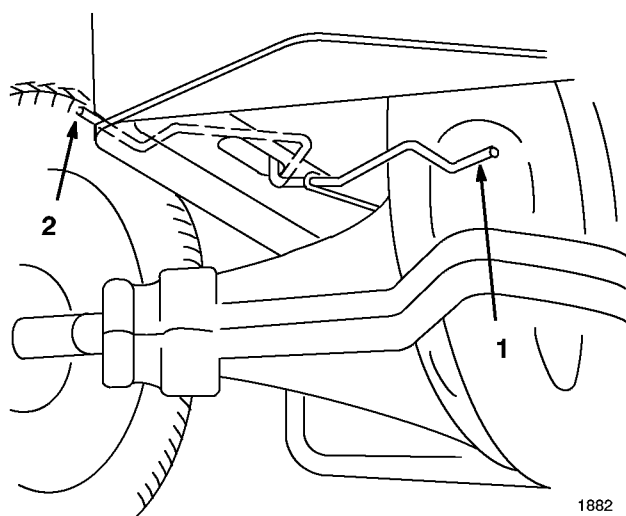

Figure 11
2. Move the drive control to the “PUSH” position. This disengages the drive system and allows the wheels to turn freely (Fig. 11).
1. Move the drive control to the “OPERATE” position. This engages the drive system (Fig. 11).